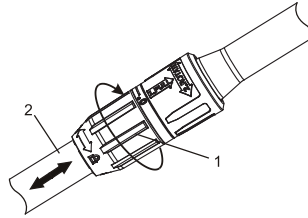

Fig. 5
1. Rotate the telescoping shaft locking collar (1) clockwise one turn (Fig.5).
2. Slide the lower section of the telescoping shaft (2) in or out until the desired shaft length is achieved.